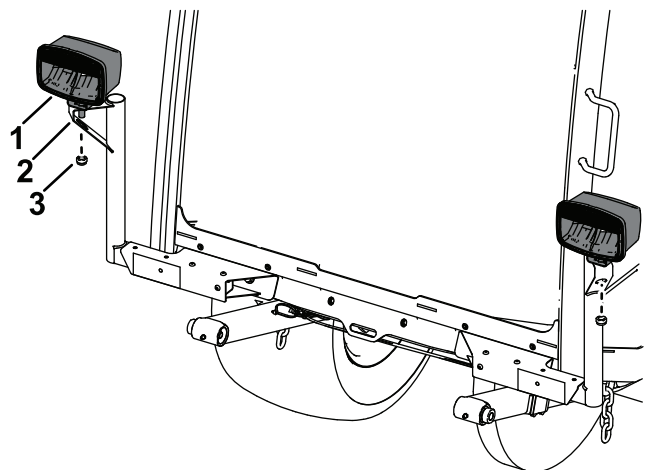

Figure 16
3. Secure the left light assembly and right light assembly to the left light mount and right light mount using the hex nut on the light assemblies (Figure 16).